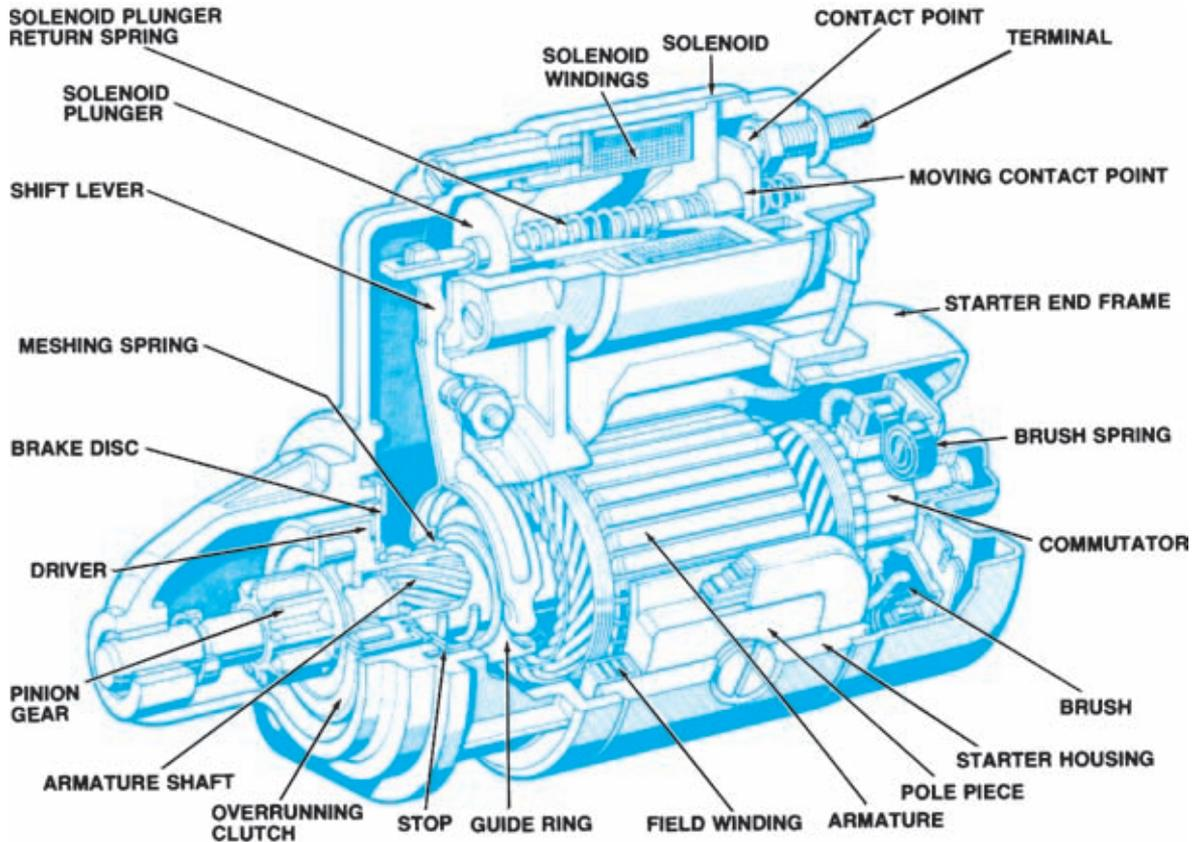

Figure 9-39. Starter motor cutaway.
Starter motors, as shown in Figure 9-39 are direct-current (DC) motors that use a great amount of current for a short time. The starter motor circuit is a simple one containing just the
The starter motor cranks the engine through a pinion gear that engages a ring gear on the engine flywheel. The pinion gear is driven directly off the starter armature (Figure 9-39) or through a set of reduction gears (Figure 9-40) that provides greater starting torque, although at a lower rpm.